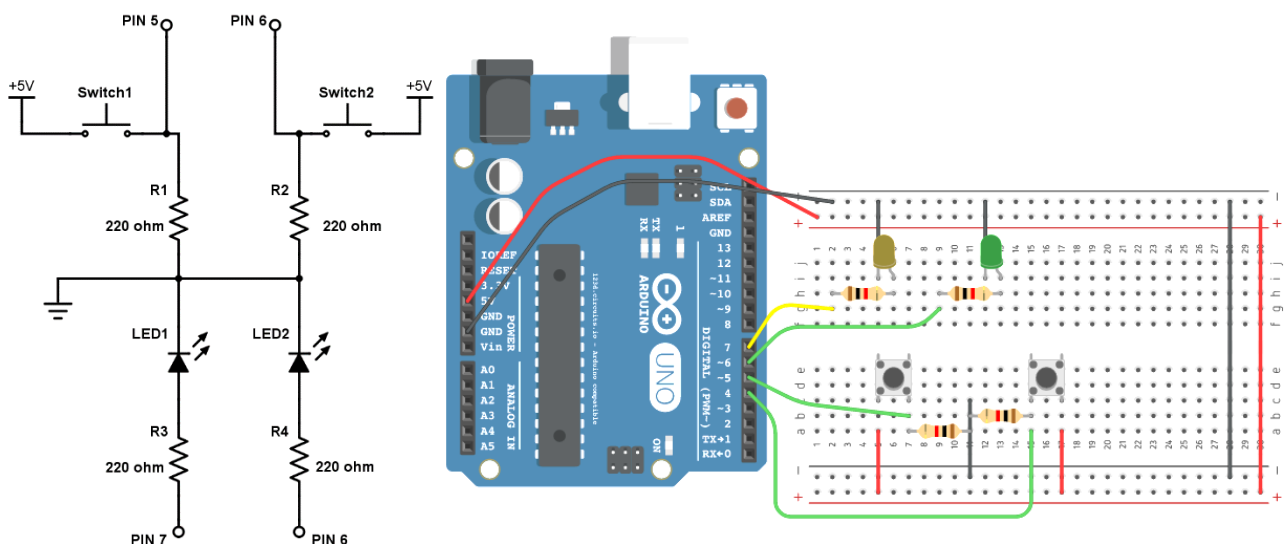

Figure 2: LEDs and switches example
*You need to construct the circuit shown in Figure 2 and download the code (DigitalInputOutput.ino) from Moodle. Please go through the program and analyse the functionality of the program.*